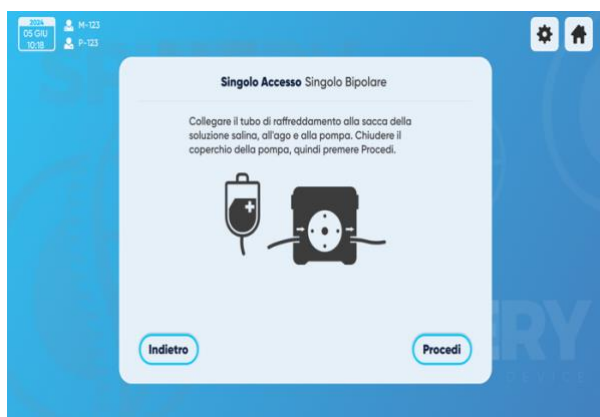

Figure 29 – Single Access Cooling Connection Screen
4. The illustrated instructions (Figure 29/30) ask you to connect the cooling connection tip to the saline bag from one end to the probe at the other end and to place the propulsion tube in the peristaltic pump.